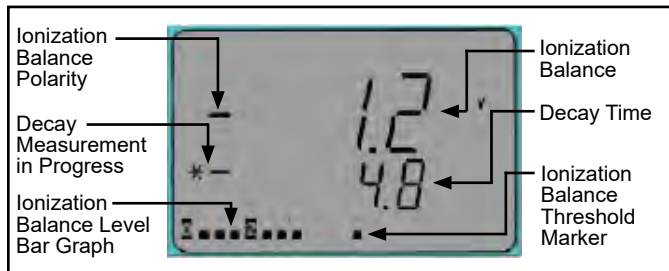

Figure 13. Balance and Decay Mode channel
1. Toggle the joystick until the Ionization Balance and Decay channel is displayed (Figure 13).